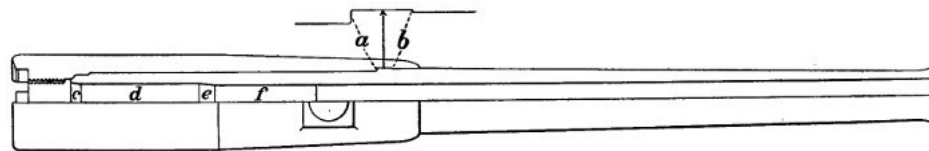

FIG. 39.
3.2-INCH B. L. RIFLE, MODEL '90. (Fig. 39.)